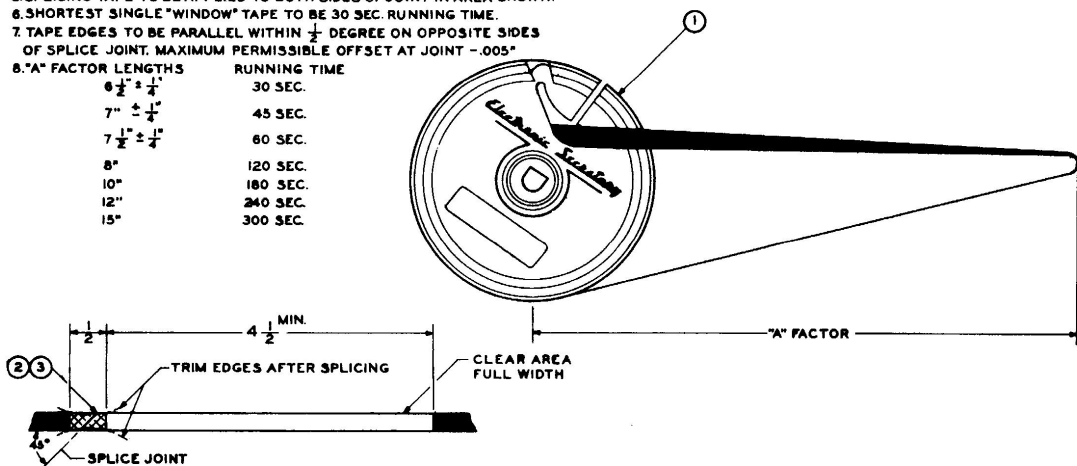
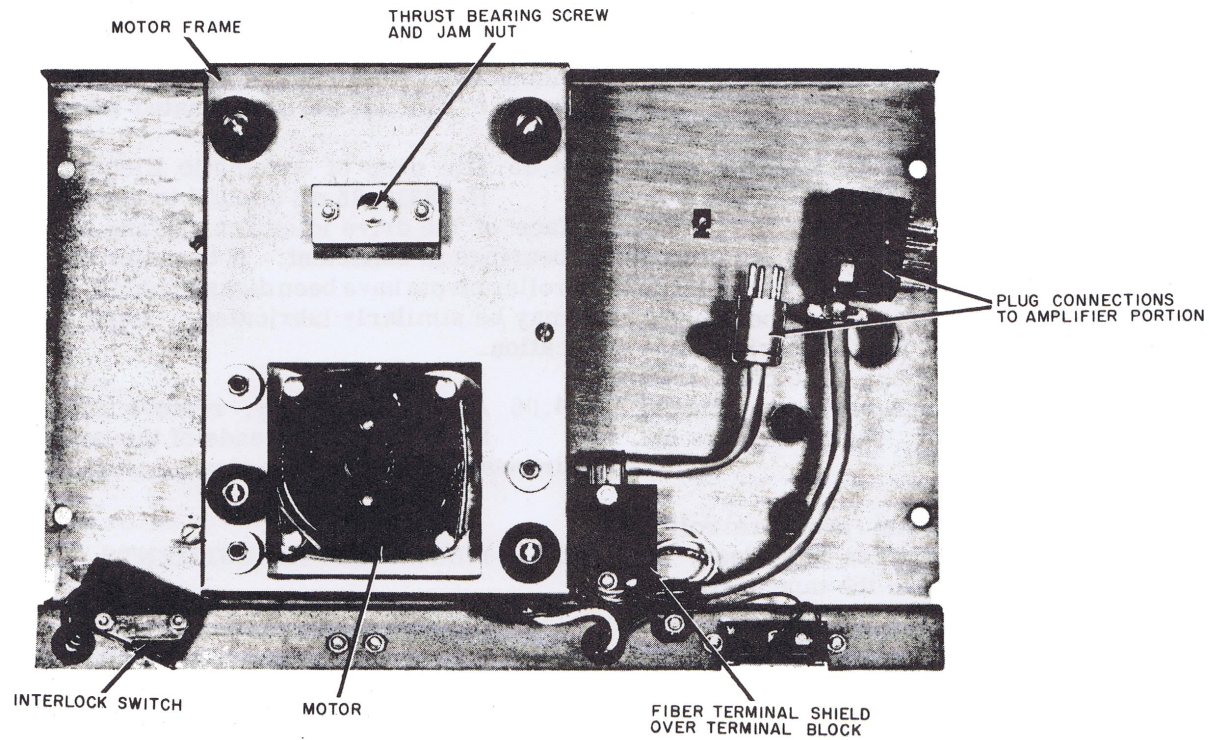
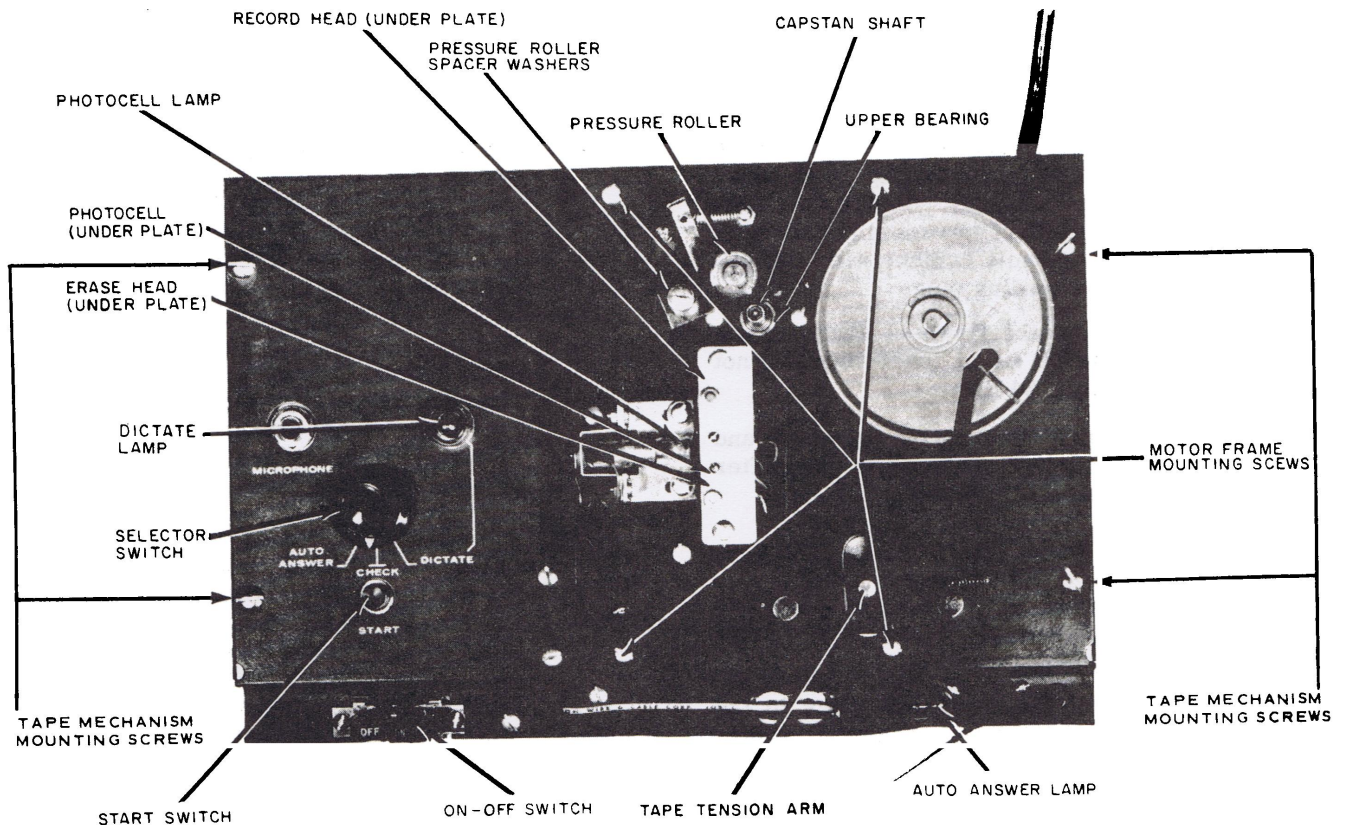

Figure 2. Tape Slack.
Figure 3. Bottom of Tape Mechanism.
Figure 5. Top of Tape Mechanism.
- 2.04 To separate the tape mechanism from the amplifier assembly, refer to figure 5 and:
- (1) Remove the two nuts holding the fiber terminal shield on the underside of the tape mechanism (refer to figure 3).
- (2) Remove the shield, and loosen the terminal screws fastening the two motor leads.
- (3) With the tape mechanism in the operating position, locate and remove the four screws holding the motor frame to the tape deck (refer to figure 5).
- (4) Hold the pressure roller away from the capstan shaft and lift the tape deck up off the motor frame.
- (5) The flywheel may be lifted upward and tipped slightly to remove from motor frame.
3.03 When in the mechanism, the tape should move freely around the pillars and heads. Assure that the tape does not bind in the cartridge and that there is sufficient tape slack consistent with running time (refer to figure 2). Tape tension arm (refer to figure 5) should move freely.
5.01 Assure that the capstan shaft is perpendicular to motorboard surface. Should this require adjustment, refer to figures 3 and 4 and proceed as follows:
5.02 Assure that the pressure roller contacts the capstan shaft surface evenly. See figure 5. Move roller slightly away from capstan surface to check this alignment. Form pressure roller sup-
5.03 Refer to figures 3, 4, and 5, and proceed as follows to adjust flywheel thrust bearing:
5.04 The head and photocell are adjusted as follows (see figure 5):